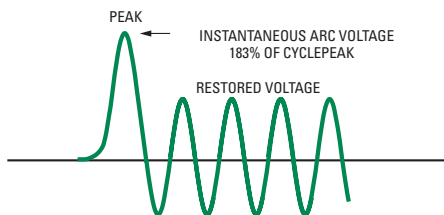

Figure 12 – Transient overvoltage during arcing time
**Arc Voltage** (See *Figure 12*) – Arc voltage is a transient voltage that occurs across an overcurrent protection device during the arcing time. It is usually expressed as peak instantaneous voltage ( $V_{peak}$  or  $E_{peak}$ ), or on rare occasion as rms voltage.